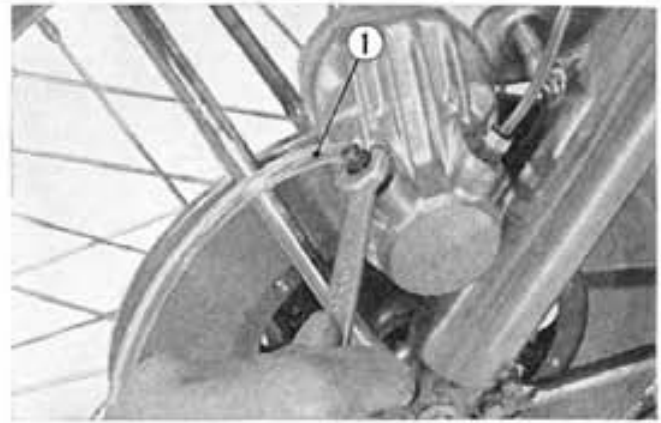

Fig. 14-13 ① Bleeder hose
- a. Remove the dust cap from the bleeder valve and attach bleeder hose. (Fig. 14-13)